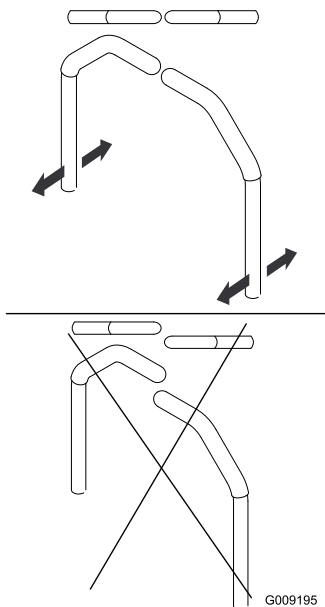

Figure 79
4. Align the levers in the front-to-rear position by bringing the levers together to the NEUTRAL position, and slide them until they are aligned, then tighten the bolts (Figure 79).